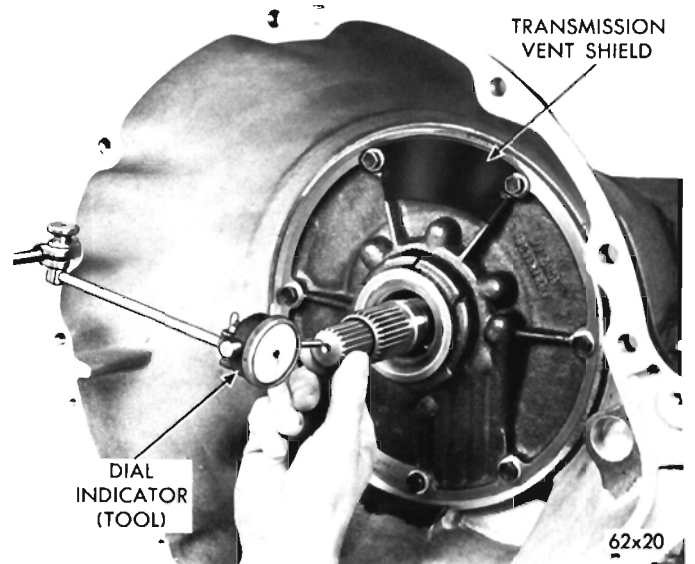

Fig. 65—Measuring Drive Train End Play
(1) Attach a dial indicator to the transmission bell housing with its plunger seated against the end of the input shaft (Fig. 65). **Chuck** the input shaft in and out to obtain end play reading. End play specifications are: .023 to .089 for the A-904-G and A-904-LA transmissions, and .036 to .084 inch for the A-727-A and B transmissions.
(2) Record the indicator reading for reference when reassembling the transmission. Refer to Page 104.